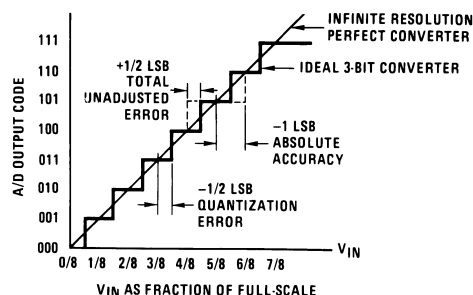
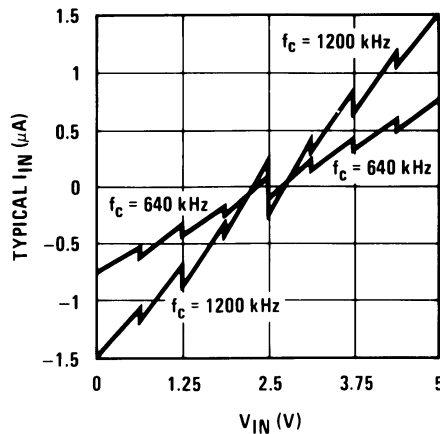

Figure 3. 3-Bit A/D Absolute Accuracy Curve
Figure 6. Comparator I_{IN} vs. V_{IN}
- (1) Total unadjusted error includes offset, full-scale, and linearity errors. See Figure 3. None of these A/Ds requires a zero or full-scale adjust. However, if an all zero code is desired for an analog input other than 0.0V, or if a narrow full-scale span exists (for example: 0.5V to 4.5V full-scale) the reference voltages can be adjusted to achieve this. See Figure 13.
- (2) Two on-chip diodes are tied to each analog input which will forward conduct for analog input voltages one diode drop below ground or one diode drop greater than the V_{CC} supply. The spec allows 100 mV forward bias of either diode. This means that as long as the analog V_{IN} does not exceed the supply voltage by more than 100 mV, the output code will be correct. To achieve an absolute 0 V_{DC} to 5 V_{DC} input voltage range will therefore require a minimum supply voltage of 4.900 V_{DC} over temperature variations, initial tolerance and loading.
- (3) Comparator input current is a bias current into or out of the chopper stabilized comparator. The bias current varies directly with clock frequency and has little temperature dependence (Figure 6).
The average value of the comparator input current varies directly with clock frequency and with V_{IN} as shown in Figure 6.